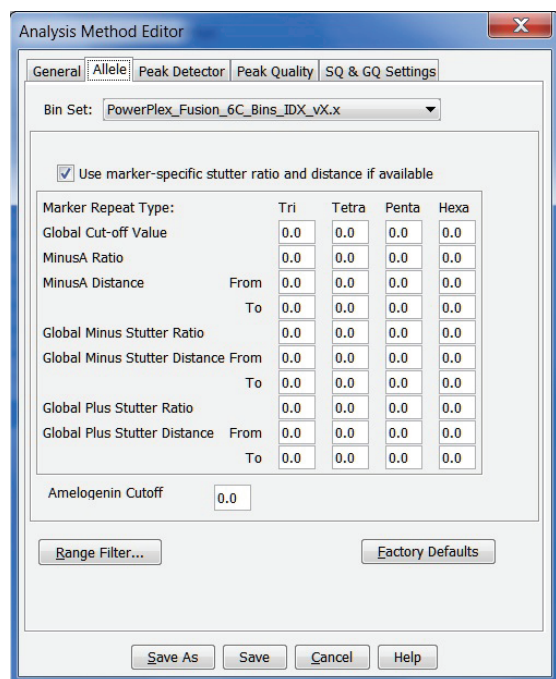

Figure 26. The GeneMapper® ID-X 'Allele' tab.
6. Select the 'Allele' tab (Figure 26).